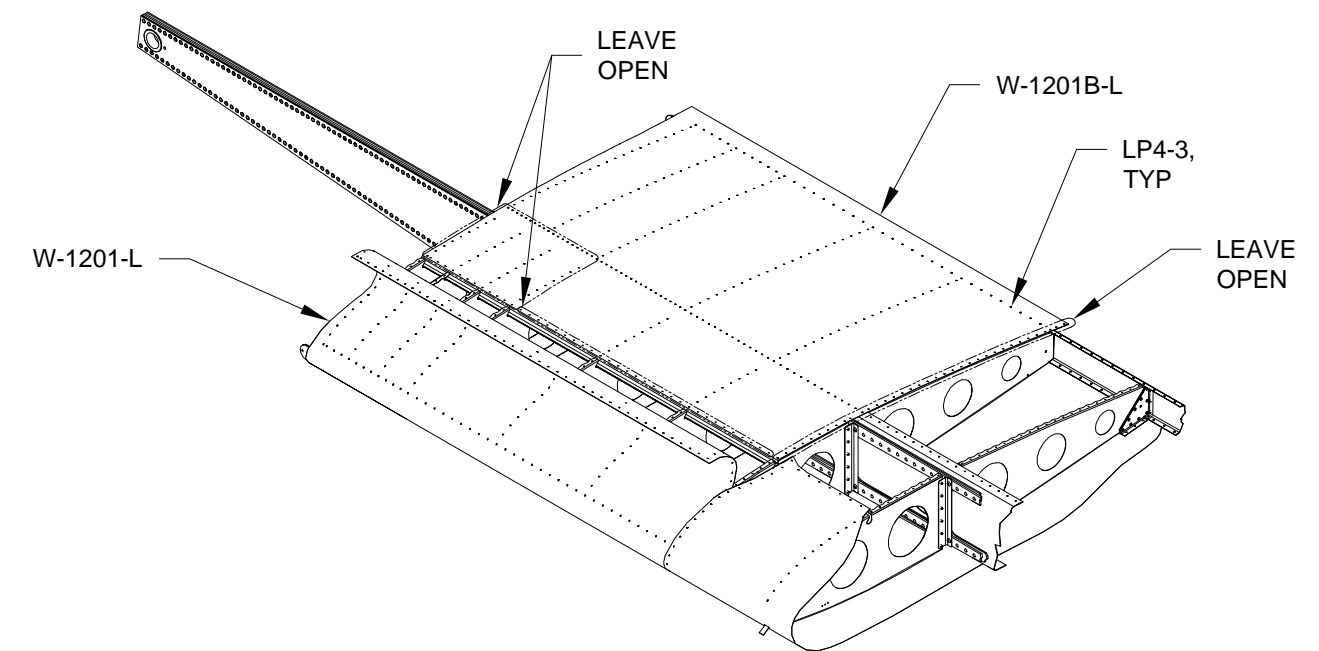

FIGURE 3: INBD UPPER WING SKIN INSTALLATION
Step 4: Position the W-1201B-L Inbd Upper Wing Skin on the wing skeleton as shown in Figure 3. The stiffening flange along the leading edge of the inbd upper wing skin should drop into the cut-outs in the W-1208 Nose Ribs when you lift the trailing edge of the inbd upper wing skin. Cleco then rivet the inbd upper wing skin to the skeleton leaving holes open as shown in Figure 3.